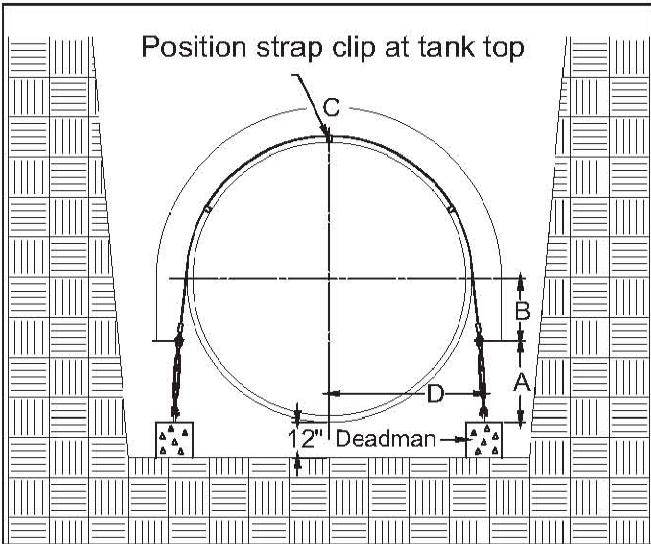

FIGURE 8-2
8.2.3.1. When installing any size tank, and when using Xerxes' D-ring/D-ring anchor straps and Xerxes' prefabricated deadmen, the deadmen are to be placed so that the top of the deadmen is even with the bottom of the tank. See FIGURE 8-2 and TABLE 8-2 for anchor-point dimensions.
Anchoring Dimensions for FIGURE 8-2